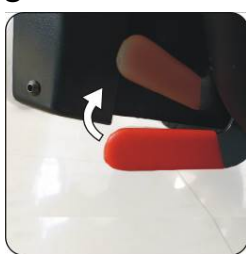

Figure 5-2
5.2.18.1.2 Drive Mode: Pull the lever of both of motors upwards to the upmost position then the wheelchair can be driven by motor power. (See Figure 5-2). Ensure both sides of the freewheel levers are pulled back to the drive mode position before driving the wheelchair.